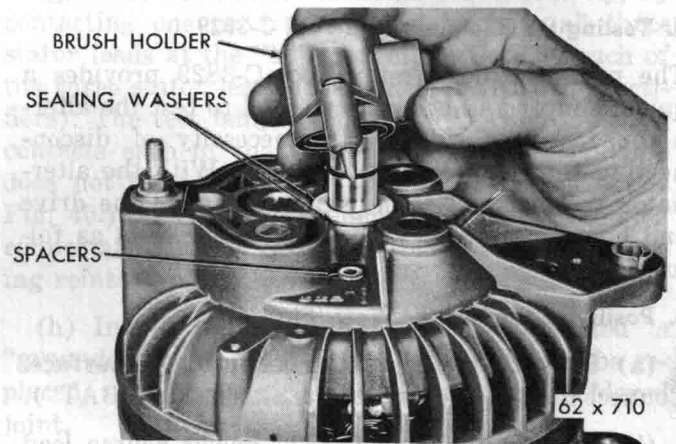

Fig. 32—Removing or Installing Brush Holder
(2) Remove the plastic brush holder attaching screws, brush holder (Fig. 32), and spacer washers. Keep spacer washers separated for each attaching screw to insure proper spacing at assembly. Carefully remove the brush cover seals (Fig. 33).